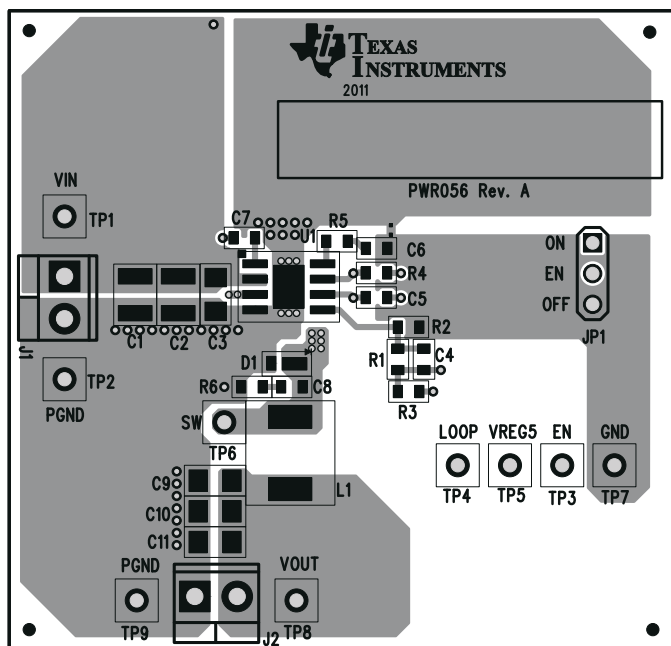
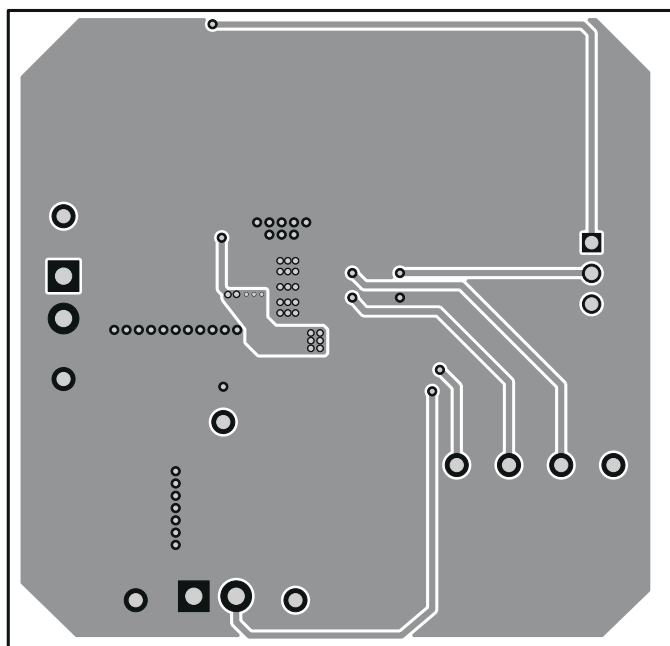

Figure 5-1. Top Assembly
Figure 5-5. Bottom Layer
Figure 5-1 through Figure 5-5 show the board layout of the TPS54329EEVM-056. The top layer contains the main power traces for VIN, VO, and ground. Also on the top layer are connections for the pins of the TPS54329E and a large area filled with ground. Many of the signal traces also are located on the top side. The input decoupling capacitors are located as close to the IC as possible. The input and output connectors, test points, and all of the components are located on the top side. An analog ground (GND) area is provided on the top side. Analog ground (GND) and power ground (PGND) are connected at a single point on the top layer near C6. The two internal layers are completely dedicated to power ground planes. The bottom layer is primarily power ground. A copper pour area on the bottom layer is used to connect the switching node (SW) to the output inductor and the boost capacitor. Traces also connect the enable control jumper, EN, VREG5, and LOOP test points, and the feedback trace from VOUT to the voltage setpoint divider network.